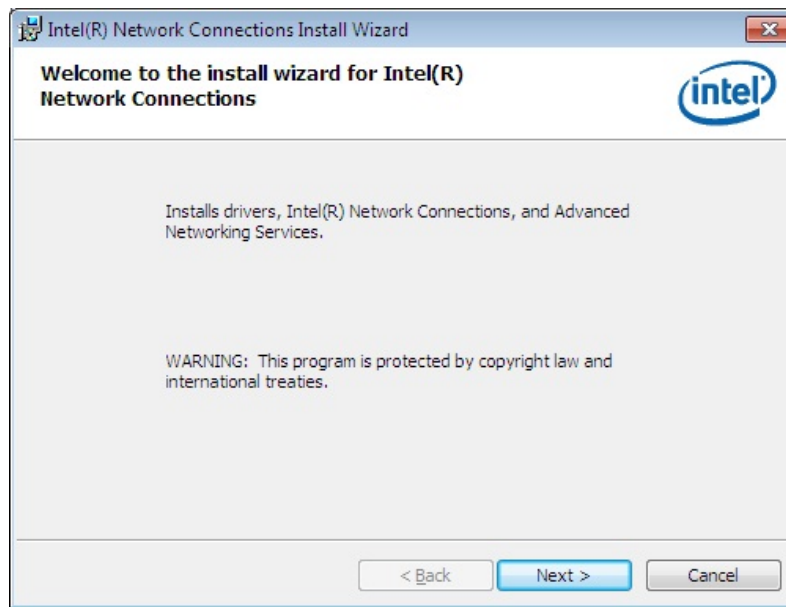

Figure 6-17: LAN Driver Welcome Screen
Step 4: When the setup files are completely extracted, the **Welcome** screen in **Figure 6-17** appears. Click **Next** to continue.